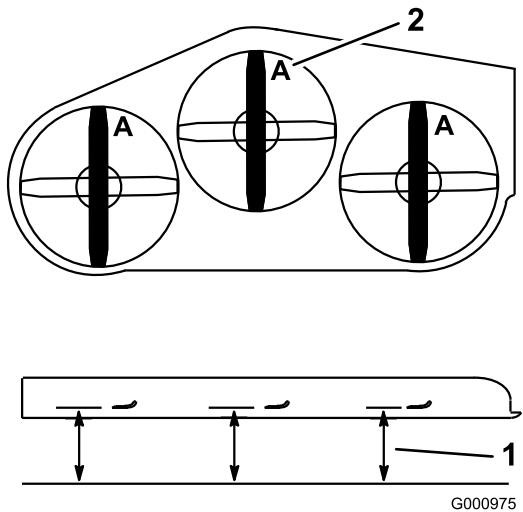

Figure 78
3. Rotate the blades until the ends face forward and backward. Measure from a level surface to the cutting edge, position A, of the blades (Figure 78). Note this dimension.